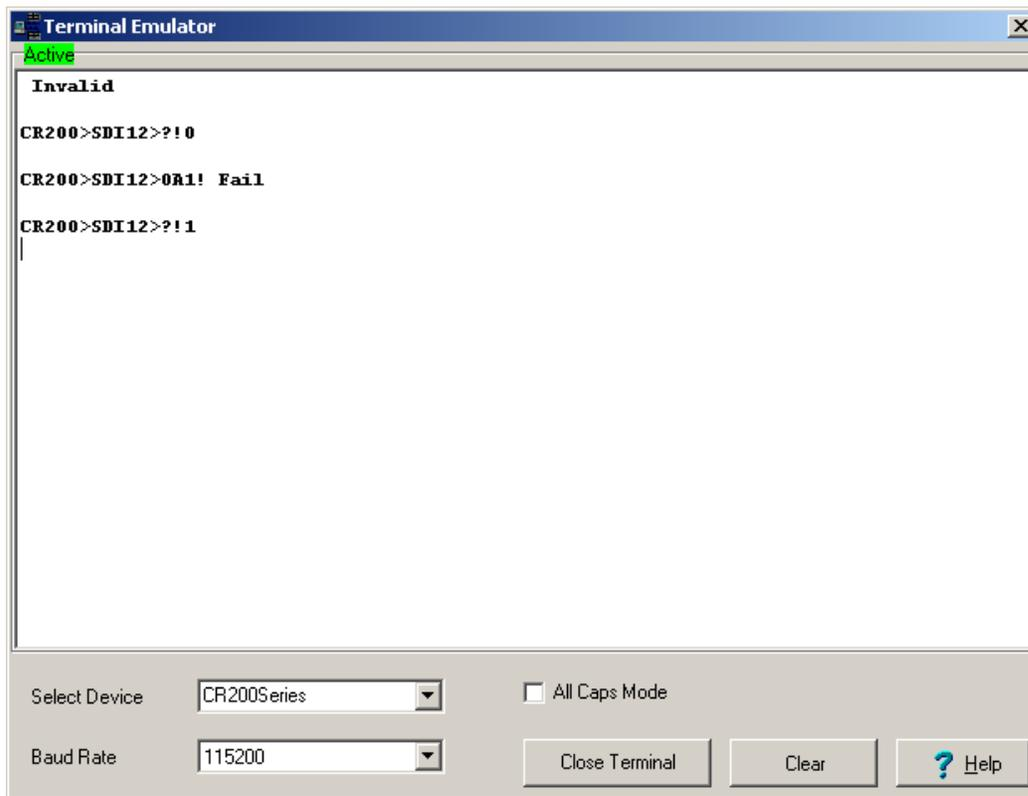

FIGURE 7-3. SDI-12 Transparent Mode on a CRBasic CR200(X)-series datalogger using control port C1/SDI12 and changing the SDI-12 address from 0 to 1
- Press the <enter> key until the datalogger responds with the “CR200(X)>” prompt (FIGURE 7-3).